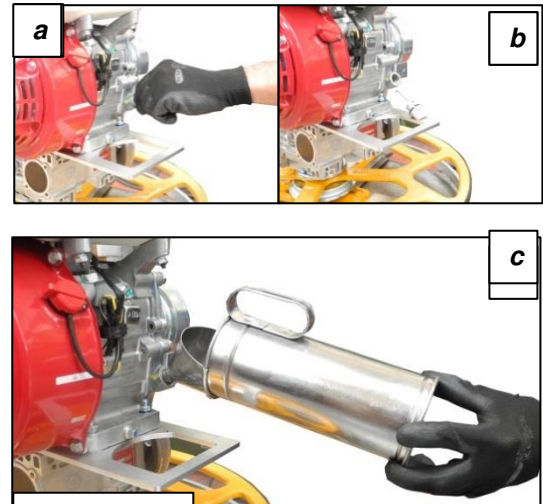

FIG. 6.6
- Remove the oil filler cap and dipstick and clean (Fig. 6.6 a);